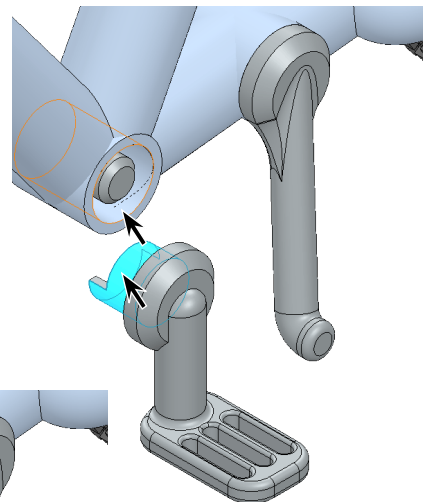

Fig. 19
Step 2. Click a **cylindrical face Pedal Revolve** and a **cylindrical face of Petal hole in Frame**, **Fig. 19**.